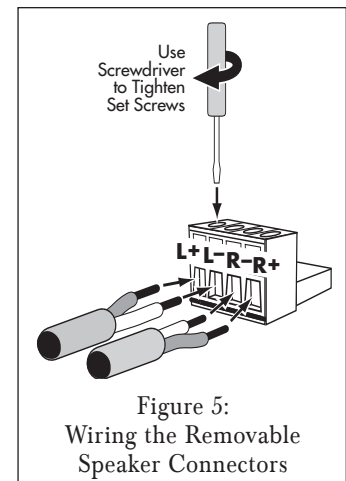

Figure 5:
4. Insert the exposed portions of the speaker wires into the terminal openings. Make sure to insert the '+' and '-' leads into the correct openings, as shown in *Figure 5*.